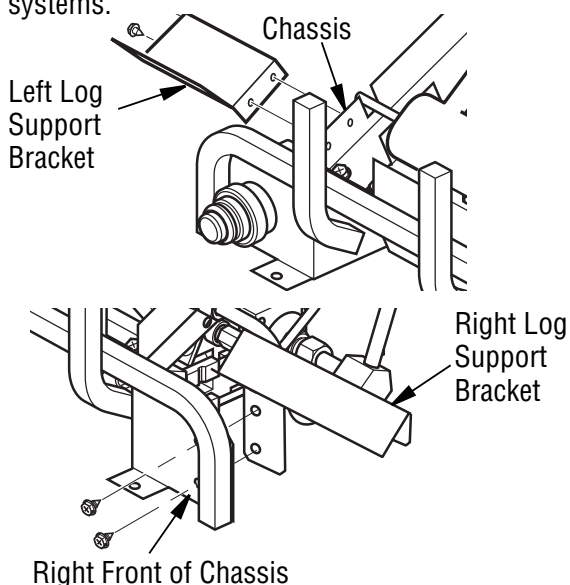

Figure 19- Installing Log Support Brackets
1. Install left bracket to left side of chassis using 2 screws provided (see **Figure 19**).
2. Install right bracket to right front of chassis using 2 screws provided (see **Figure 19**). This bracket will also be used as remote control bracket if remote is installed.